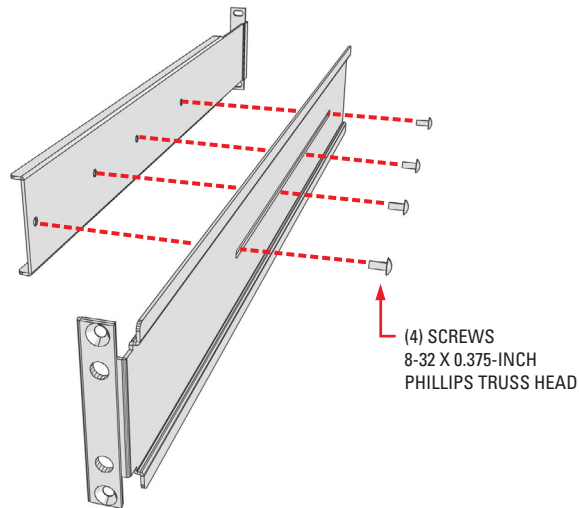

Figure 10. Assembling a Support Rail
3. Attach one front-mount rail to one rear-mount rail. Make sure the rails are mounted back to back, as shown in Figure 10. Depending on rack depth, use either three or four 8-32 x 0.375-inch Phillips truss head screws for each rail set. Leave the screws loose until step 10.